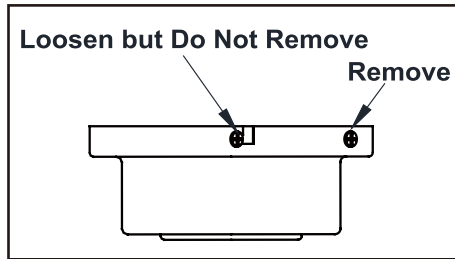

Figure 6
2. Remove the mounting plate from the canopy by loosening the four screws on the top of the canopy. Remove the two non-slotted screws and loosen the slotted screws. This will enable you to remove the mounting plate. (Figure 6)
2. Remove the mounting plate from the canopy by loosening the four screws on top of the canopy. Remove the two non-slotted screws and loosen the slotted screws. This will enable you to remove the mounting plate. (Figure 6)